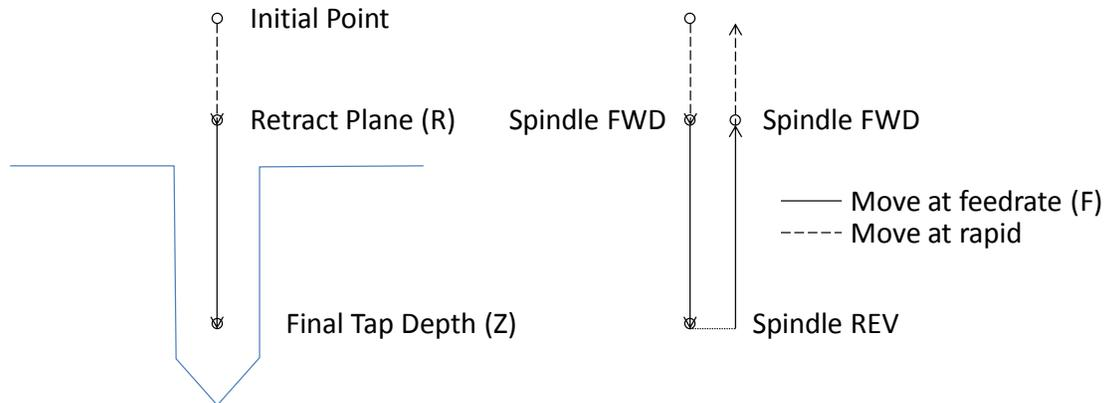

FIGURE 21 MOTION OF TOOL POINT FOR G84 CYCLE. END Z POSITION WILL BE DETERMINED BY G98/99 SETTING
The motion of the tapping cycle is straight forward, but does require some additional description. See Figure 21 for a graphic of the tool motion. The movement is very similar to a straight drill cycle, action of the spindle being the major difference. The spindle must be started in the forward direction prior to calling the G84 cycle. The machine will then move to the hole position then the Z axis will move down to the R plane. The Z will feed down to the specified depth then the spindle and Z axis will stop then reverse direction to retract out of the hole. Due to slight variations of spindle speed, feed rate and
**G84.2/G84.3 – Right and Left Hand Rigid Tapping:** Rigid tapping can be performed on capable machines. As the name implies the tap is held rigidly in the spindle, no tension/compression style tapping holder is required. Holding the tap in this manner requires the machine to have precise control of spindle speed, axis feed, and precise feedback of spindle RPM. The tapping axis will be electronically geared to the spindle RPM. Use G84.2 for right hand tapping and G84.3 for left hand tapping. See figure 21 for a graphic of the motion.